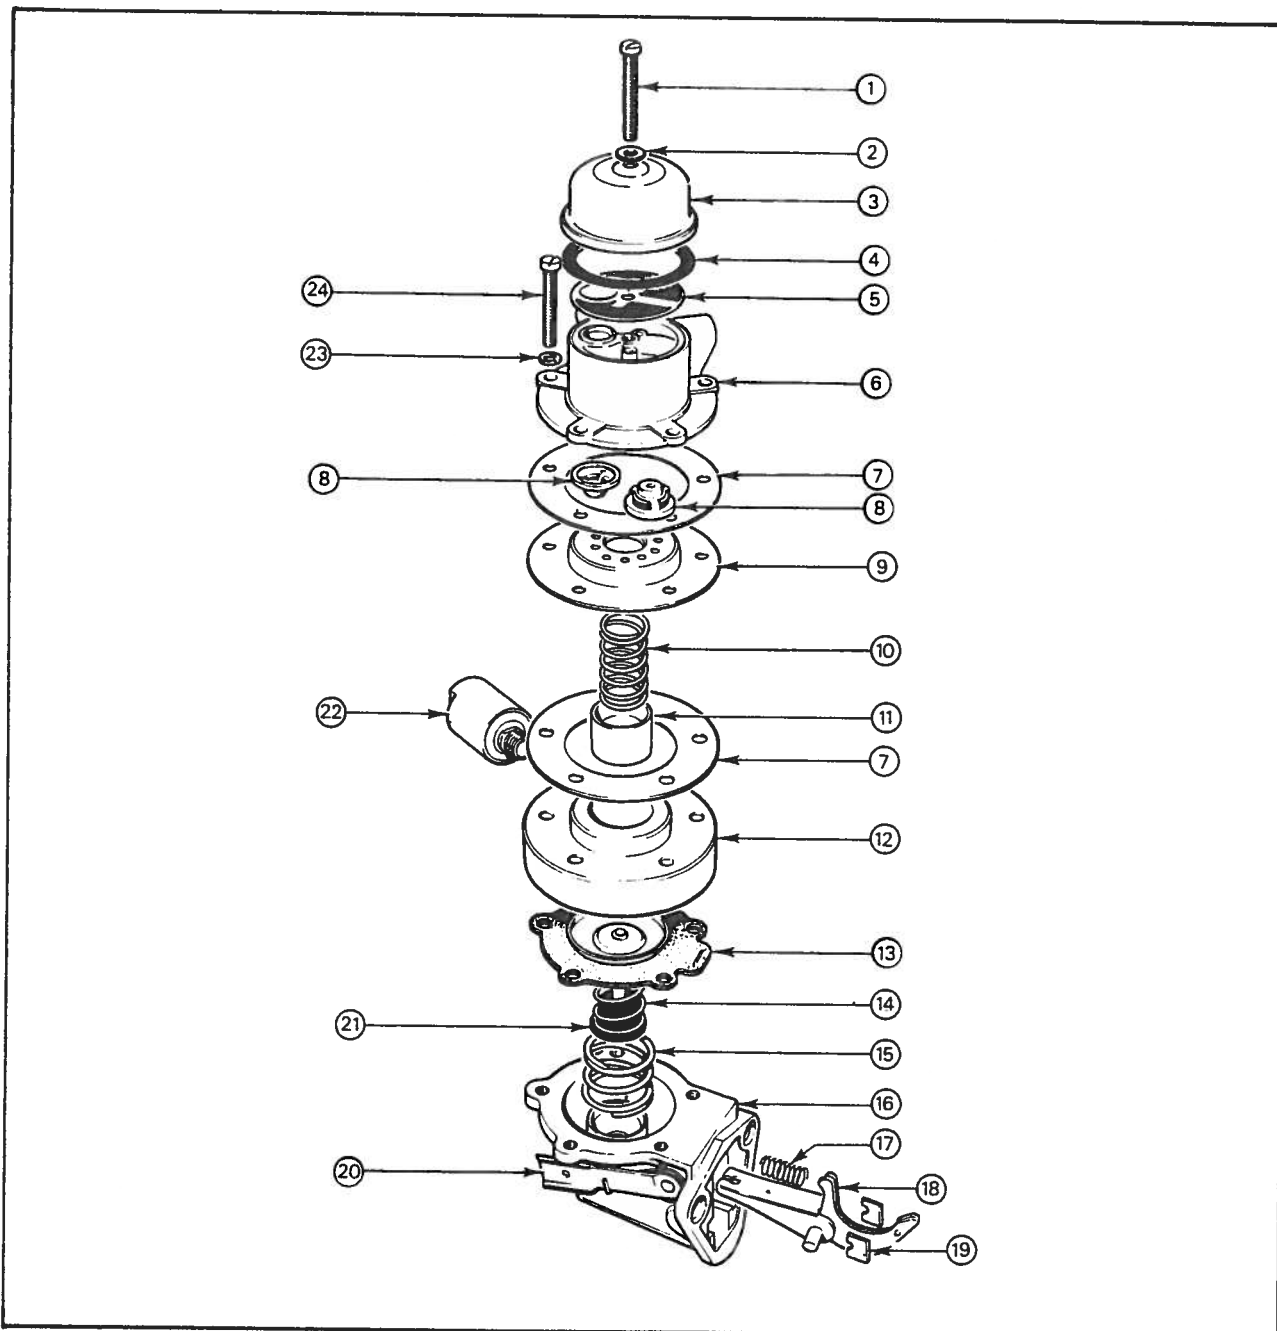

Fig. 36 CAV FUEL LIFT PUMP – HEAVY DUTY
4. Locate the upper and lower pump bodies together (if a cold start pump, refer to Fig. 36 for correct location of parts).